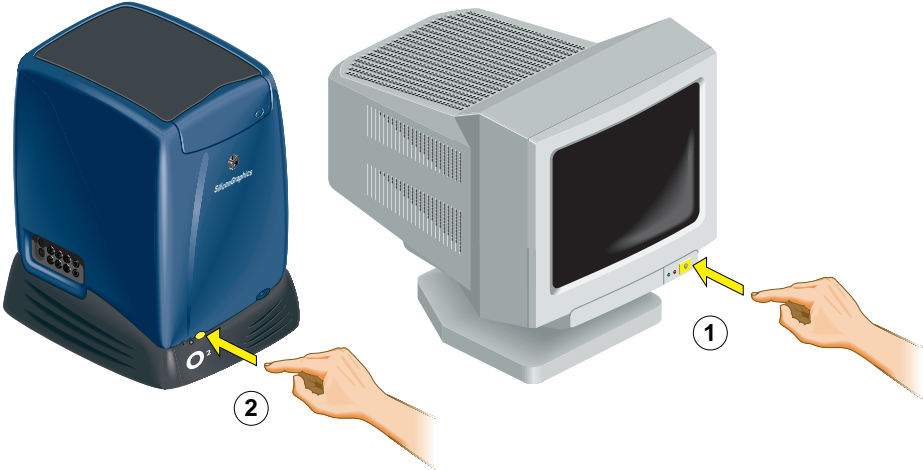

Figure 1-10 Turning On the Monitor and the Workstation
6. Turn on the monitor and the workstation (Figure 1-10).